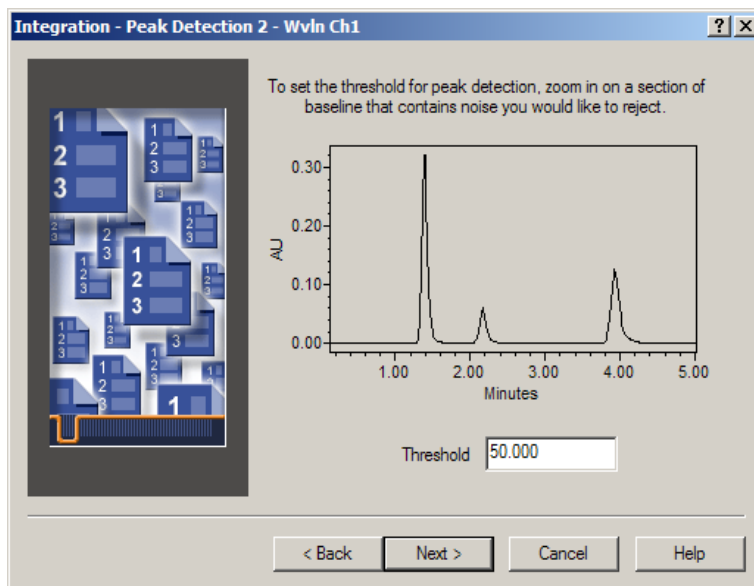

Figure 3-8 Integration - Peak Detection 2 Page
5. Click **Next** to go to the Integration - Peak Detection 2 page (Figure 3-8).